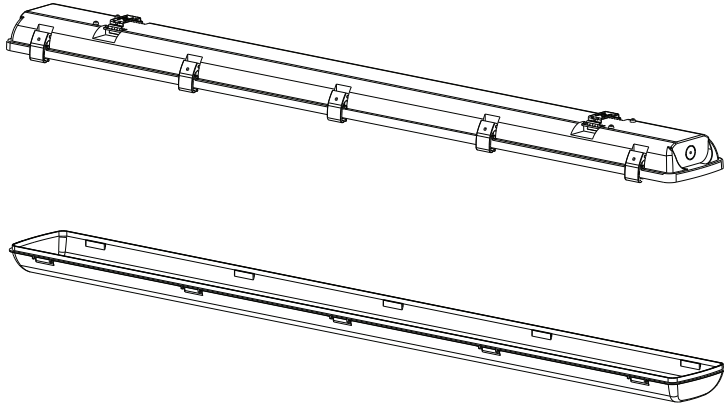

FIG. 1
1. Unclip the clips on both sides of the fixture (4FT model pictured). Remove the lens to access the USB-C receptacle next to the LED board (see **Fig. 1**).